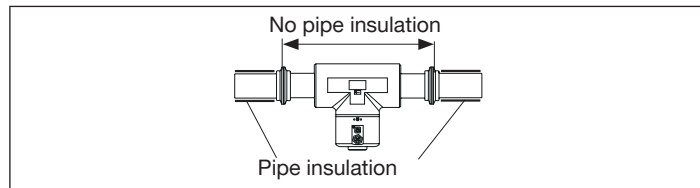

Fig. 10: Thermal insulation of the pipe
- If the pipe is fitted with a thermal insulation, do not thermally insulate the measurement tube of the device to make sure that the temperature in the device is less than 70°. Refer to Fig. 10 and Fig. 15 for the minimum supply voltage.